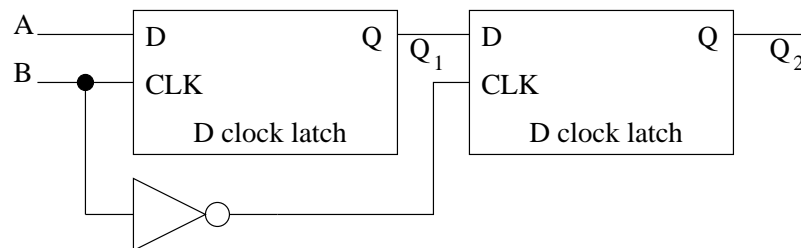

Figure 5.3:
3. **(8 pts.)** Complete the state table for the circuit in Figure 5.3. Assume that the propagation delay through the D clocked latches is much longer than the delay through the NOT gate. Which basic memory element does it act like?